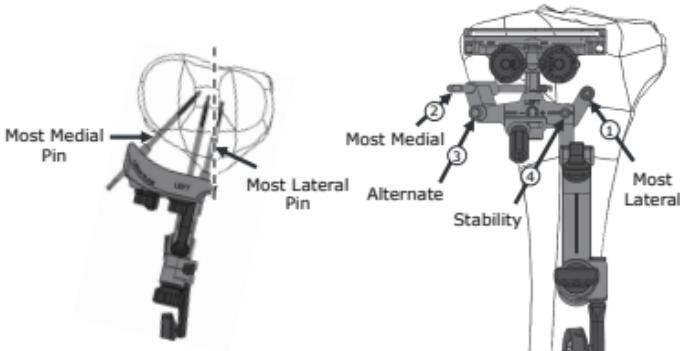

Figure 4: Cut Guide Fixation and Pin Placement
To install the Adjustable Tibia Cut Guide, ensure all dials are set to 0 to allow for the full range of adjustment. The cut slot should be aligned with the anticipated resection. Install the Tibia Fixation Base with the most lateral pin on or medial to the tibia tubercle as shown in Figure 4. Optionally, the following manual alignment instruments are compatible for use with the Adjustable Tibia Cut Guide. Refer to the associated surgical technique guide for instructions for use.
Once alignment is established, ensure the pin locations are located within the incision. Position the most lateral pin guide of the Fixation Base on the tibial tubercle medial of the subluxed patellar tendon and ensure that the most medial pin guide of the Fixation Base is within the wound. First place the most lateral pin (1), followed by the most medial pin (2) as shown in the figure above, ensuring adequate purchase in the bone. For small patients, an alternate medial pin (3) placement is available as shown in Figure 4. If further stability is desired, a third pin can be placed (4).